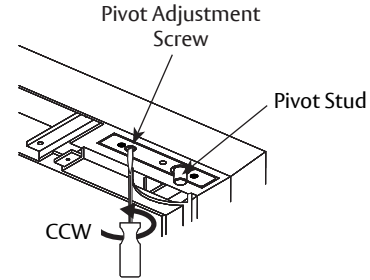

Figure 5
1. Ensure pivot stud is fully retracted into pivot by turning pivot adjustment screw counter clockwise with a flathead screwdriver. (Figure 5)